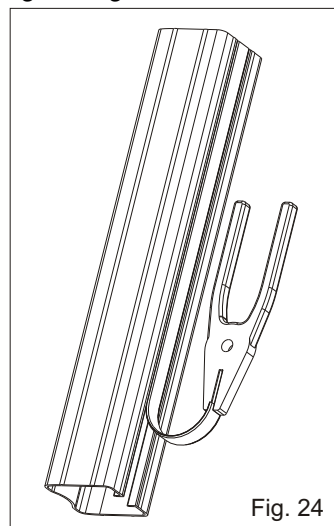

Fig. 24
2.10. Remove the pull tongue from the shaft-cover (Fig 24) and mount it on the operator through the two tie-rods without excessively tightening the two cover-nuts (Fig 25).